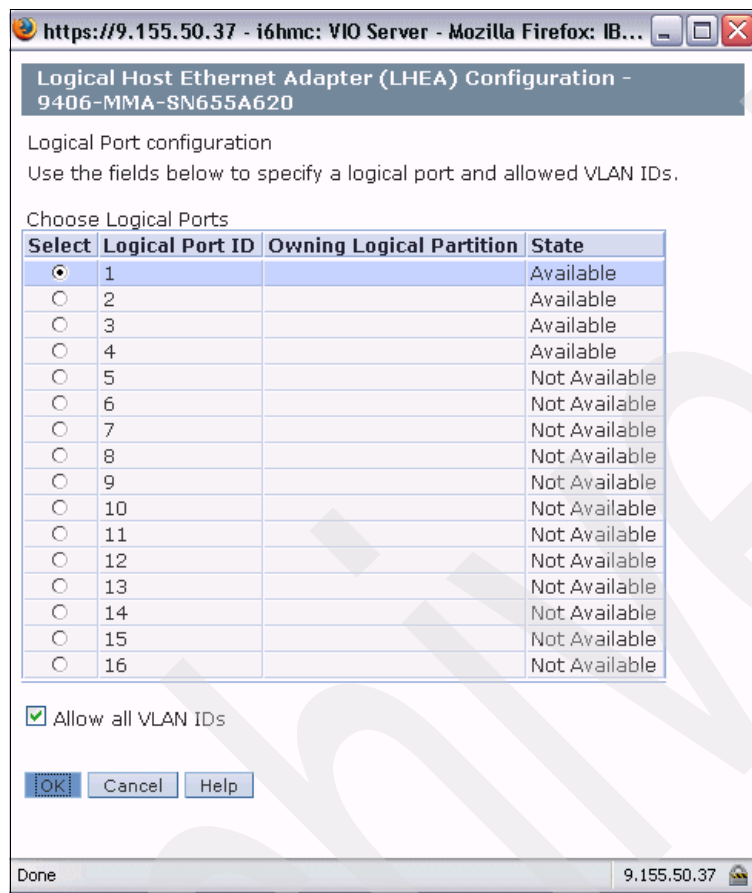

Figure 6-16 Logical Host Ethernet Adapter Configuration dialog
14. The Logical Host Ethernet Adapter Configuration dialog (Figure 6-16) shows that there are no other partitions using the HEA port T1 we selected, so we choose logical port ID 1, select **Allow all VLAN IDs**, and click **OK** to proceed.